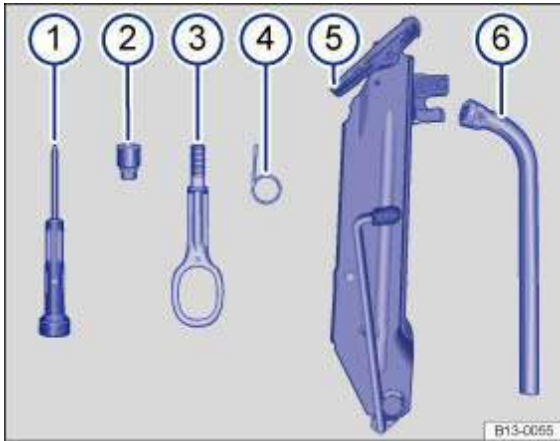
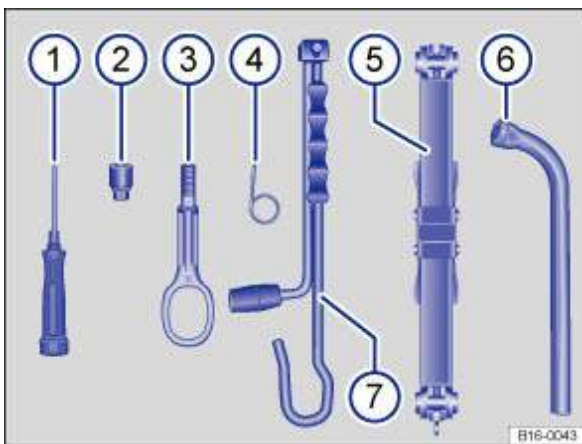

Fig. 190 Items in toolkit: type 1
Fig. 191 Items in toolkit: type 2
**Items in toolkit** → Fig. 190 or → Fig. 191